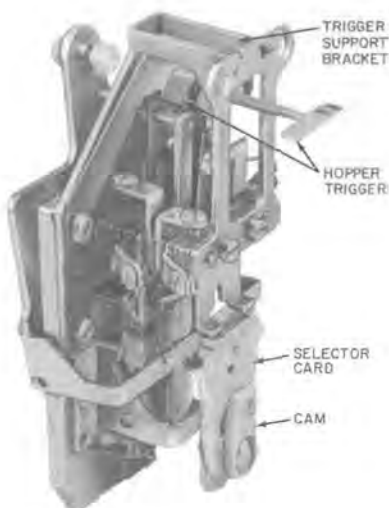

Fig. 24—Coin Relay
(3) Remove two hex head screws on sides of coin relay.
(4) Check that hopper trigger (Fig. 24) is in horizontal (up) position and pull off coin relay. **Do not damage hopper trigger.**
Note: Do not attempt to install relay if trigger support bracket (Fig. 24) is so distorted that mounting holes do not engage hopper bosses.